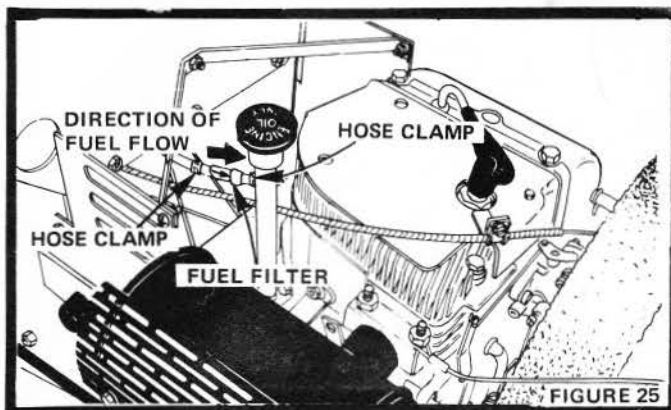

FIGURE 25
- With Engine cool, remove and plug Fuel Line Sections as removed from both ends of Fuel Filter (Fig. 25).